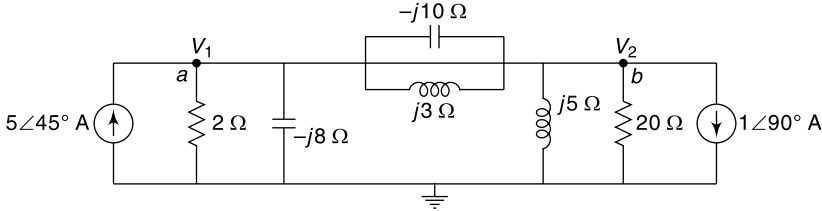

Fig. 14.89
14.100 Determine the node voltages V_1 and V_2 in the circuit shown in Fig. 14.89.